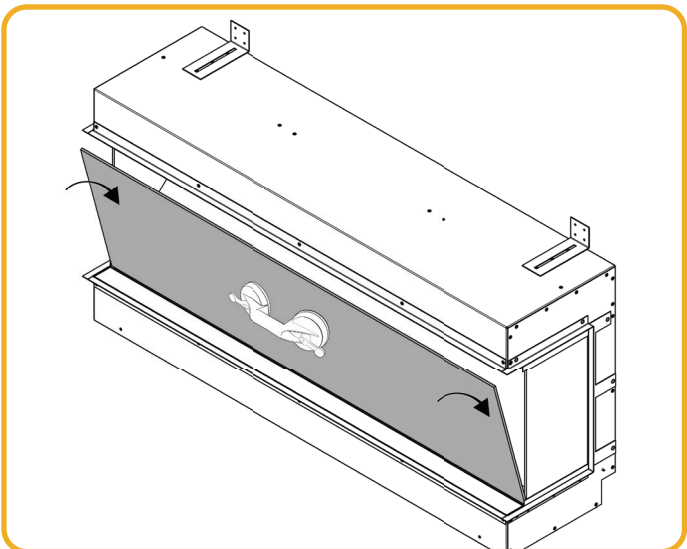

Figure.9.3 | Placing the front glass
- After placing the effect glass the front glass can be place. Position it with the bottom edge first and tilt it into place. See Figure 9.3.